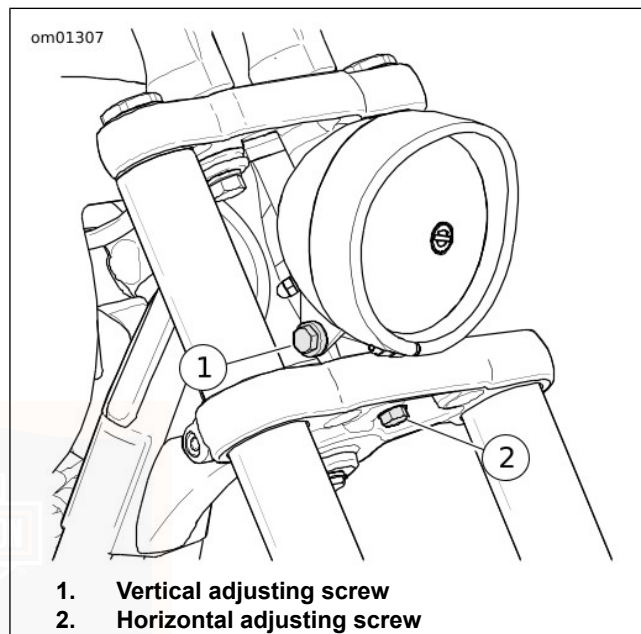

Figure 78. Headlamp Adjustment
1. See Figure 78. Adjust headlamp horizontal alignment.
- a. Loosen horizontal adjustment screw (2). Adjust headlamp horizontally to direct light beam straight ahead.
2. See Figure 78. Adjust headlamp vertical alignment.
- a. Loosen vertical adjustment screw (1). Adjust headlamp vertically until beam centers on horizontal line.
- b. Tighten vertical adjustment screw (1):